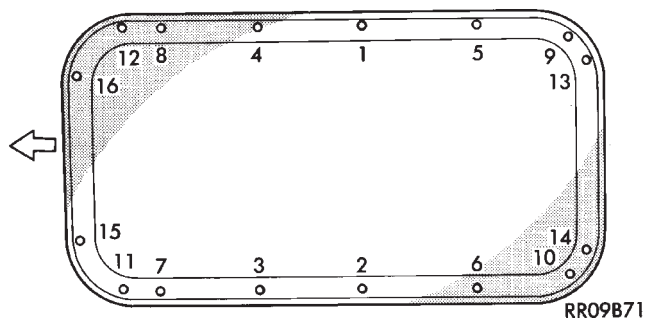

Fig. 4 Oil Pan Screw Tightening Sequence
- (2) Install pan and tighten screws to 6 N·m (50 in. lbs.) in sequence shown in (Fig. 4).